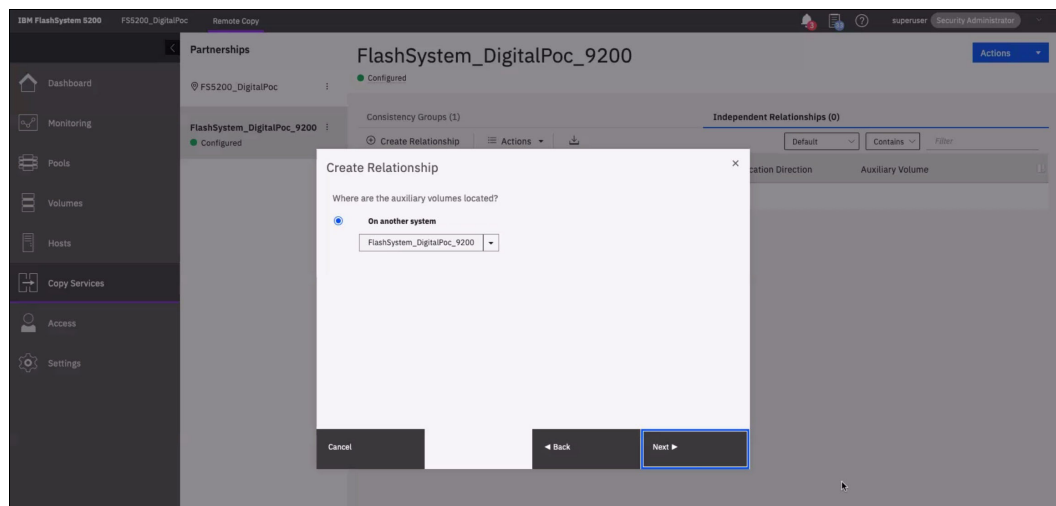

Figure 8-26 Choosing target system
- Select the target system on which the auxiliary volumes are stored, as shown in Figure 8-26.